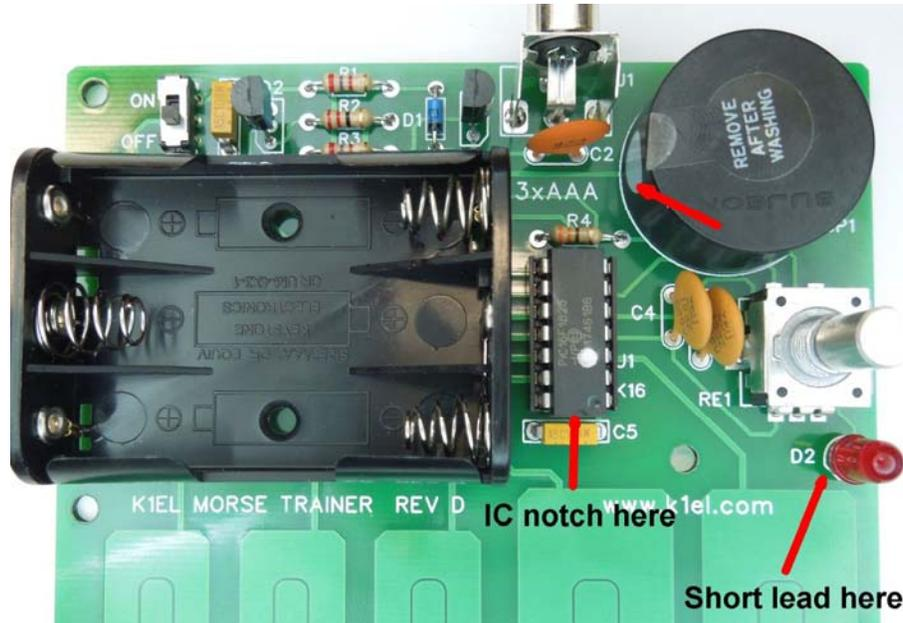

Figure 7 – Socket, 2 pin headers, Q1, Q2, speaker, and LED installed
- \_\_\_ Install the 14 pin DIP socket; orient the notch in the socket as shown in figure 7
Referring to figure 7:
- \_\_\_ Install the LED with flat side as shown. If you are not sure which side that is, note that one of the LED's leads is slightly longer than the other, an arrow on figure 7 points to where that lead goes.